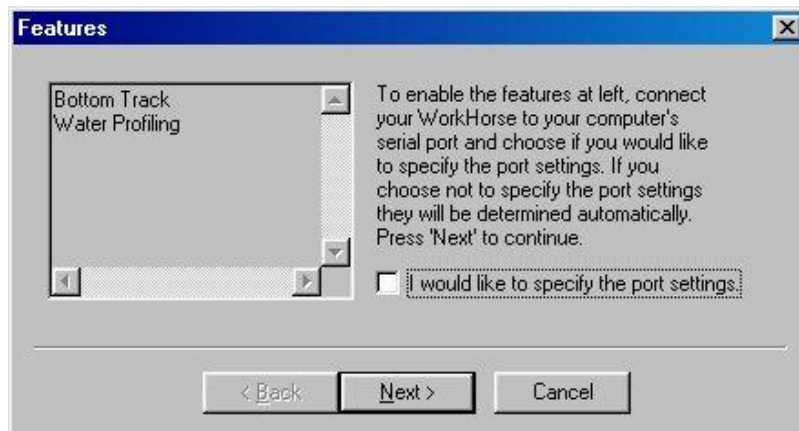

Figure 27. Installing Feature Upgrades
- d. In the **Open** box, type A:\xxx.exe, where xxx is the ADCP's CPU serial number. The installation program will start (see Figure 27). The program is encoded with the ADCP's serial number and the requested feature upgrade.